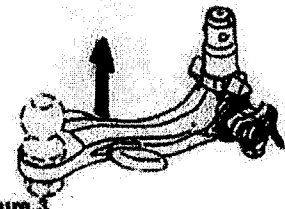

Figure 3
Step 4. Locate hole in the receiver and insert centering device into the receiver, being sure to keep hands clear of handwheel. Insert firmly until you hear the audible sound of the retention mechanism. (See Figure 3)